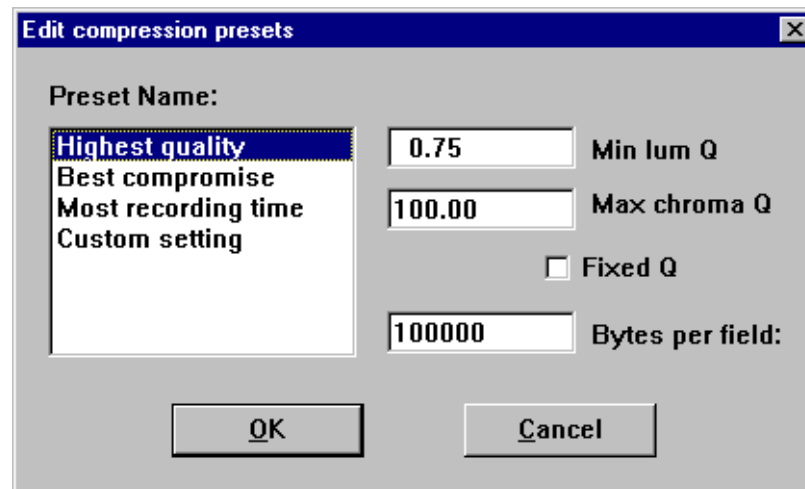

Figure 157. Edit Compression Presets dialog box
5. Edit the preset values if necessary. Refer to Table 13 for the factory set Preset values. If you need to change the values, click **Edit resets** to access the Edit Compression Presets dialog box illustrated in Figure 157. Click **OK**.